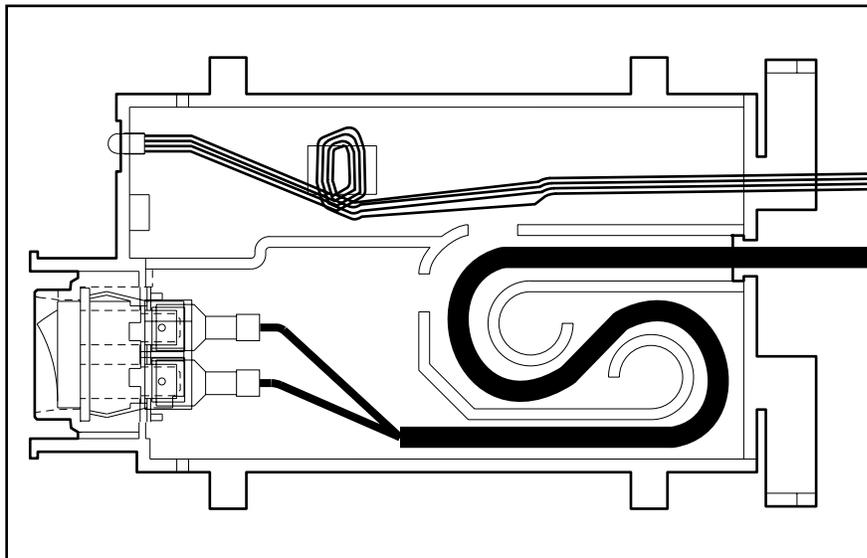

Figure 2-35. Power Supply Switch Cable Strain Relief Bracket
5. Remove power switch and cable from bracket (refer to Figure 2-35).
IMPORTANT: When replacing the power supply, make sure that the power switch cable is properly threaded through the bracket's strain relief as shown in Figure 2-35.